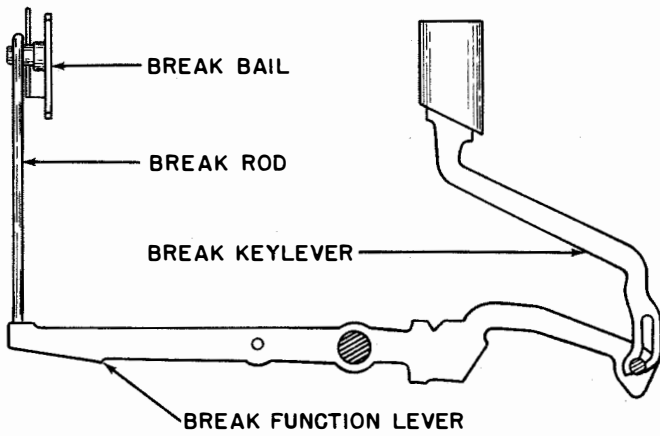
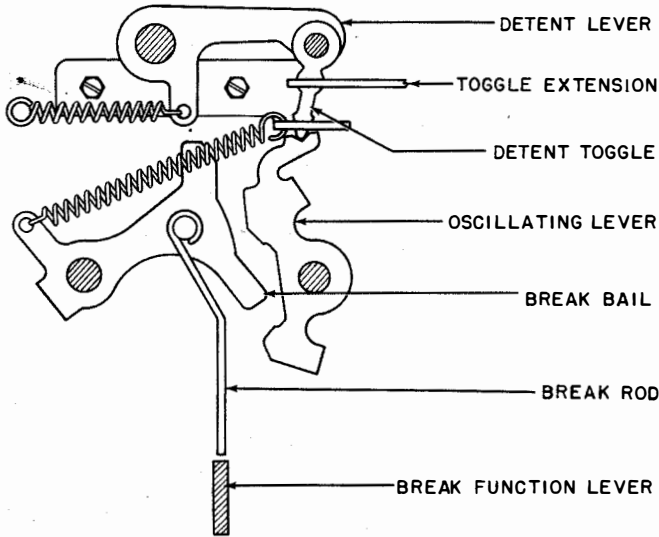

Figure 2-23. Break Mechanism
Figure 2-24. Break Mechanism
g. BREAK MECHANISM.—Operation of the break keylever (red) causes its function lever to raise the break rod and shift the break bail (figure 2-23). As the break bail moves upward, its lower end engages the lower end of the oscillating lever to rotate the lever counterclockwise as viewed from the rear (figure 2-24). The oscillating lever shifts the detent toggle toward the left where it is held by the detent lever. The detent toggle moves the toggle extension in the contact assembly toward the left and causes the contact toggle to pivot on the spacing contact and break the marking contact (figure 2-18). This breaks the line circuit until the break keylever is released. When the keylever is released, a spring on the break bail moves it downward.